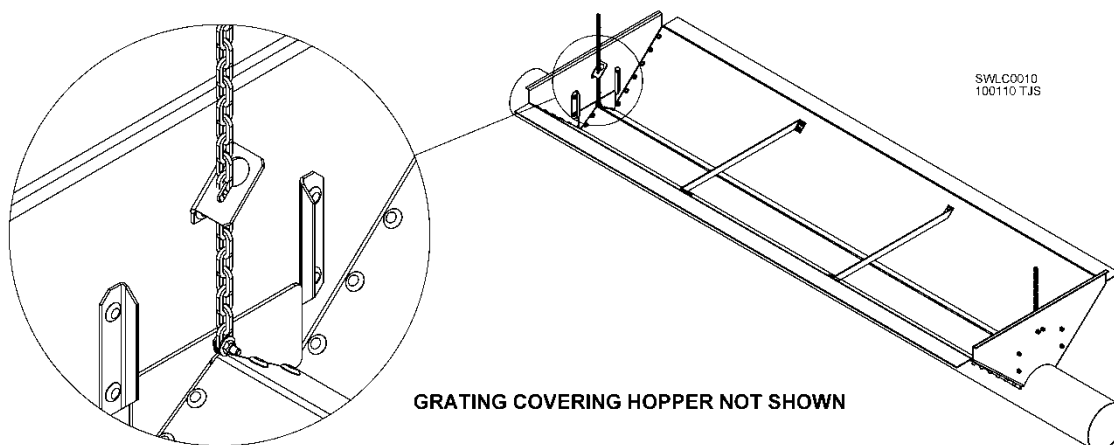

Fig. 65 – Using chain to adjust flow from hopper
4. Allow grain to flow into inlet hopper. Open flow control by adjusting chains on hopper a small amount at a time. See Fig. 65. Ensure grain has enough time to travel throughout system before making changes. Adjust grain flow so tube is consistently about 3/4 full of grain. Also, make sure electric drive motor(s) amperage does not exceed rated amperage draw as shown on motor nameplate(s). Be careful not to overload conveyor.